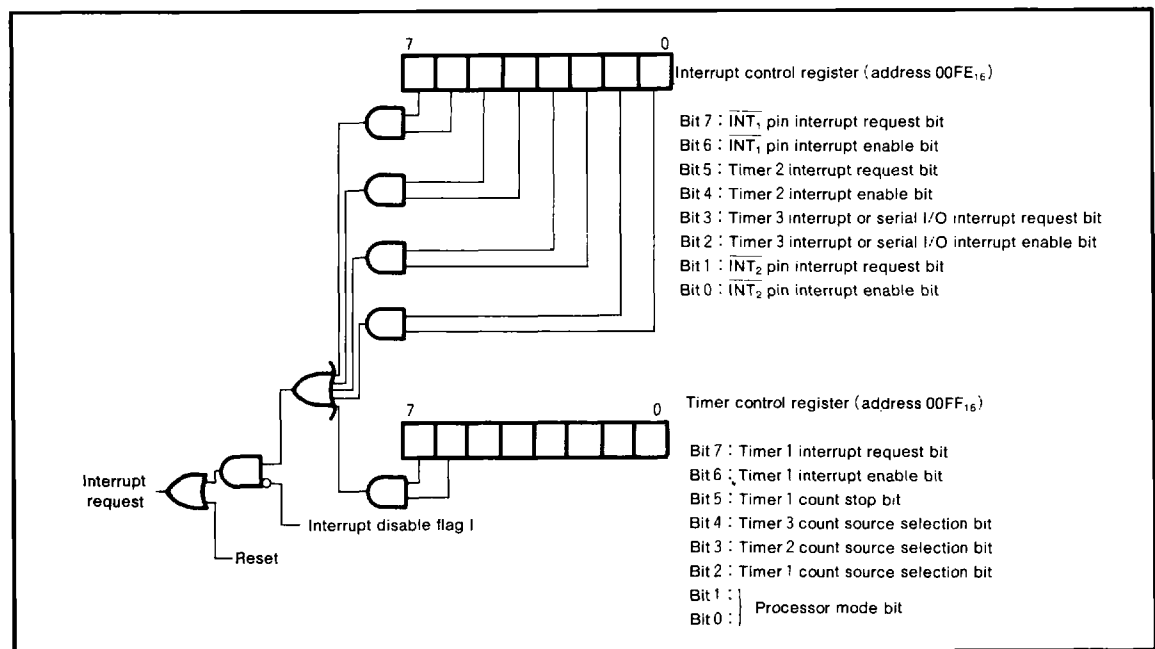

Fig. 3 Interrupt control
When an interrupt is accepted, the contents of certain registers are pushed into specified locations, as discussed in the stack pointer section, and the interrupt disable flag (I) is set, and the program jumps to the address specified by the interrupt vector, and the interrupt request bit is cleared automatically. The Reset interrupt is the highest priority interrupt and can never be inhibited. Except for the Reset interrupt, all interrupts are inhibited when the interrupt disable flag is set to "1". All of the other interrupts can further be controlled individually via the interrupt control register shown in Figure 3. An interrupt is accepted when the interrupt enable bit and the interrupt request bit are both "1" and the interrupt disable flag is "0". The interrupt request bits are set when the following conditions occur:
- (1) When the $\overline{\text{INT}}_1$ or $\overline{\text{INT}}_2$ pins go from "H" to "L"
- (2) When the levels any pin of P2 goes "L" (at power down mode)
- (3) When the contents of timer 1, timer 2, timer 3 or the counter of serial I/O go to "0"